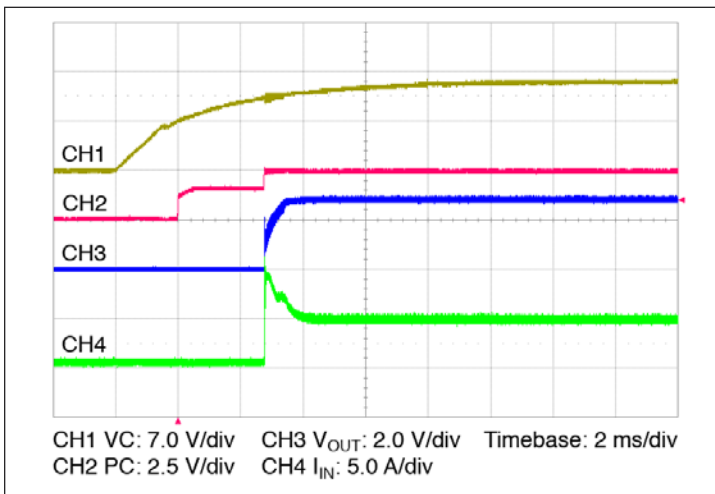

Figure 11 — Start up from application of VC;
- Stand-alone operation (VC applied after V_{IN}): In this case the VTM output will begin to rise upon the application of the VC voltage (See Figure 11). The Adaptive Soft Start Circuit (See Section 11) may vary the output rate of rise in order to limit the inrush current to its maximum level. When starting into high capacitance, or a short, the output current will be limited for a maximum of 120 μ sec. After this period, the Adaptive Soft Start Circuit will time out and the VTM module may shut down. No restart will be attempted until VC is re-applied or PC is toggled. The maximum output capacitance is limited to 16000 μ F in this mode of operation to ensure a successful start.